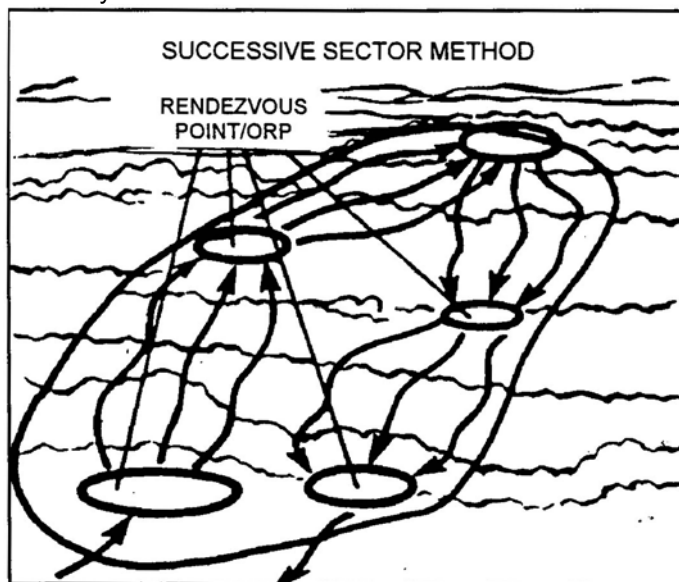

Figure 4. The successive sector method.
- (3) The successive sector method (Figure 4). The successive sector method of area reconnaissance is a continuation of the converging routes method. The unit moves to its zone of operation and selects an ORP, a series of reconnaissance routes, and rendezvous points. The action of the unit at each ORP and rendezvous point is the same as is used for the converging routes method. At each rendezvous point, information is disseminated. That point becomes the ORP for the next phase. This action continues until the entire zone has been reconnoitered. Once the reconnaissance is completed, the unit returns to friendly lines.